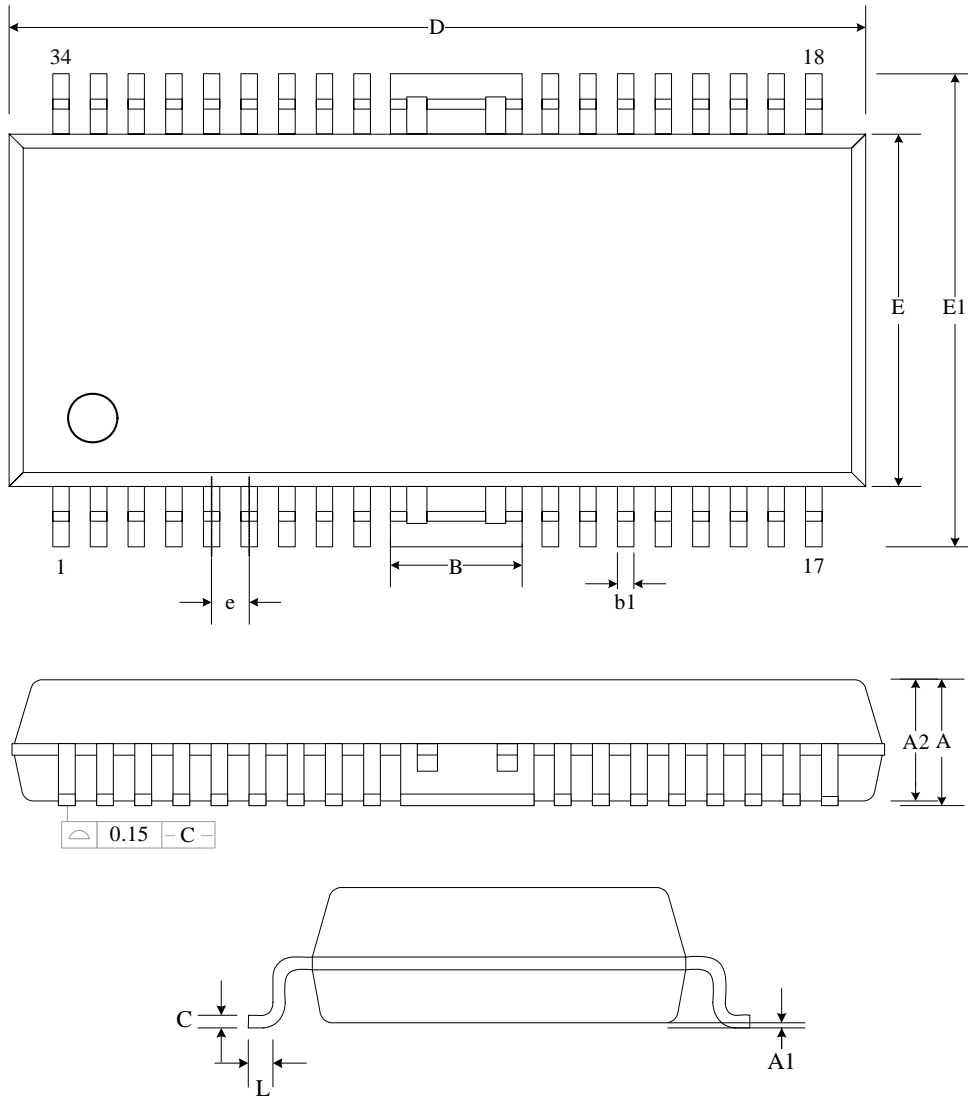

**Fig. 3**
- (2) Show input circuits of Hall Amp to Fig.3